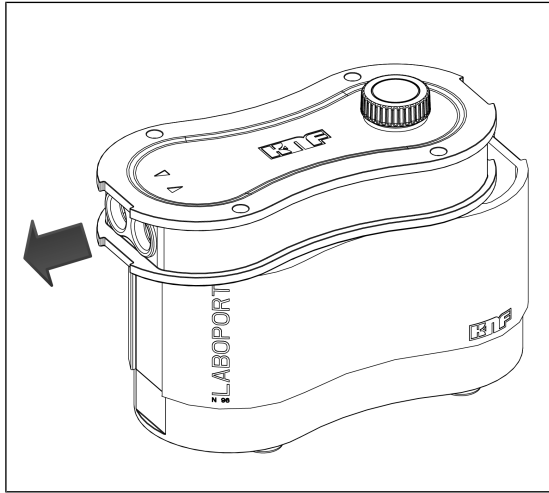

Fig.8: Pushing housing cover over gas connections (open pump)
2. Push the housing cover (2) over the gas connections (see Fig. 8).